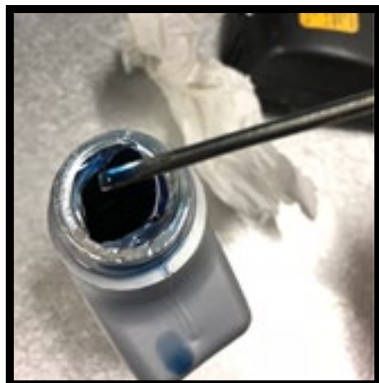

Figure 2:
7. Add lubricant on the tip of a flat screwdriver (figure 2)